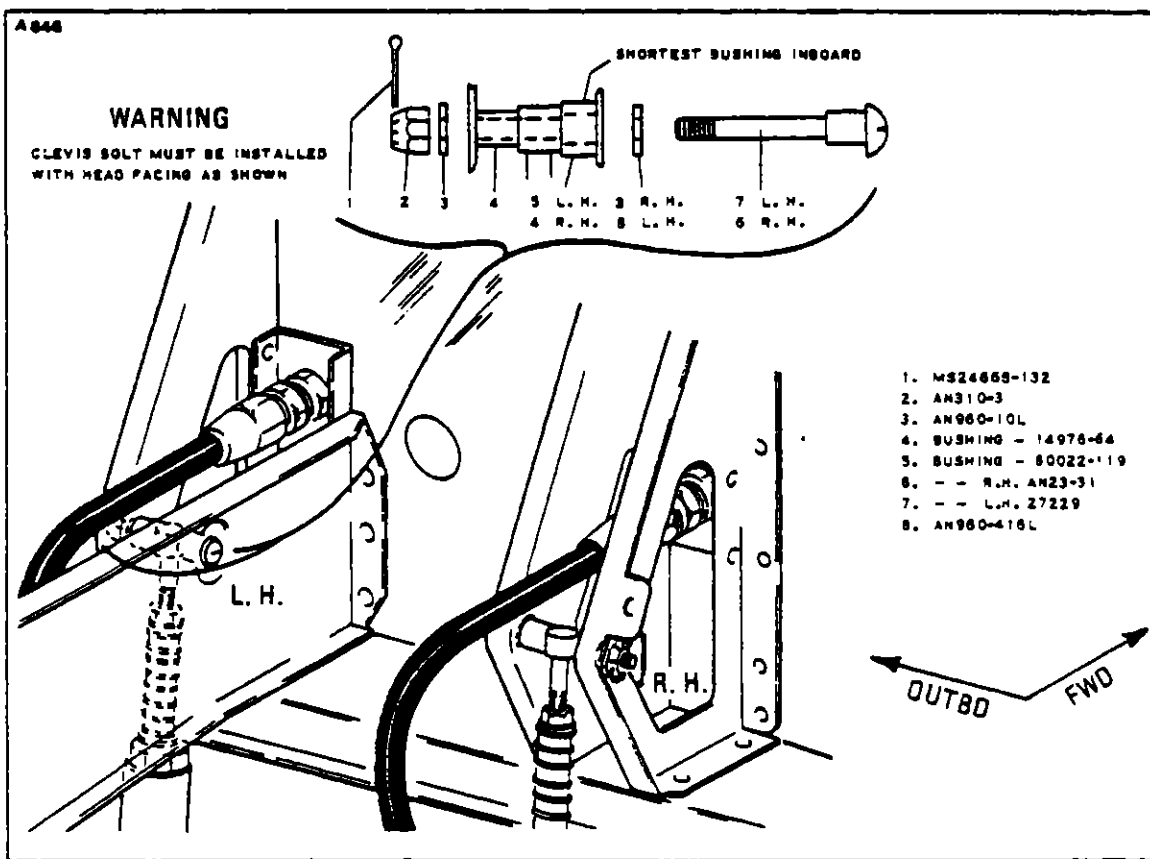

FIGURE 6-34A. BRAKE CYLINDER INSTALLATION
### 6-93. Installation Of Brake Master Cylinder. (Refer to Figure 6-34A.)
a. Position the cylinder in its mounting bracket and insert the upper mounting clevis bolt from the inboard side of each cylinder as shown in Figure 6-34A, and secure with washer, nut and cotter pin.
The upper mounting clevis bolts must be installed as shown in Figure 6-34A.